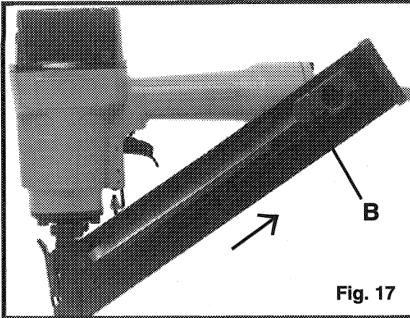

Fig. 17
4. Pull the follower (B) Fig. 17, all the way to the rear of the magazine and release. The follower will apply pressure to the strip of nails to feed it into the driving mechanism.